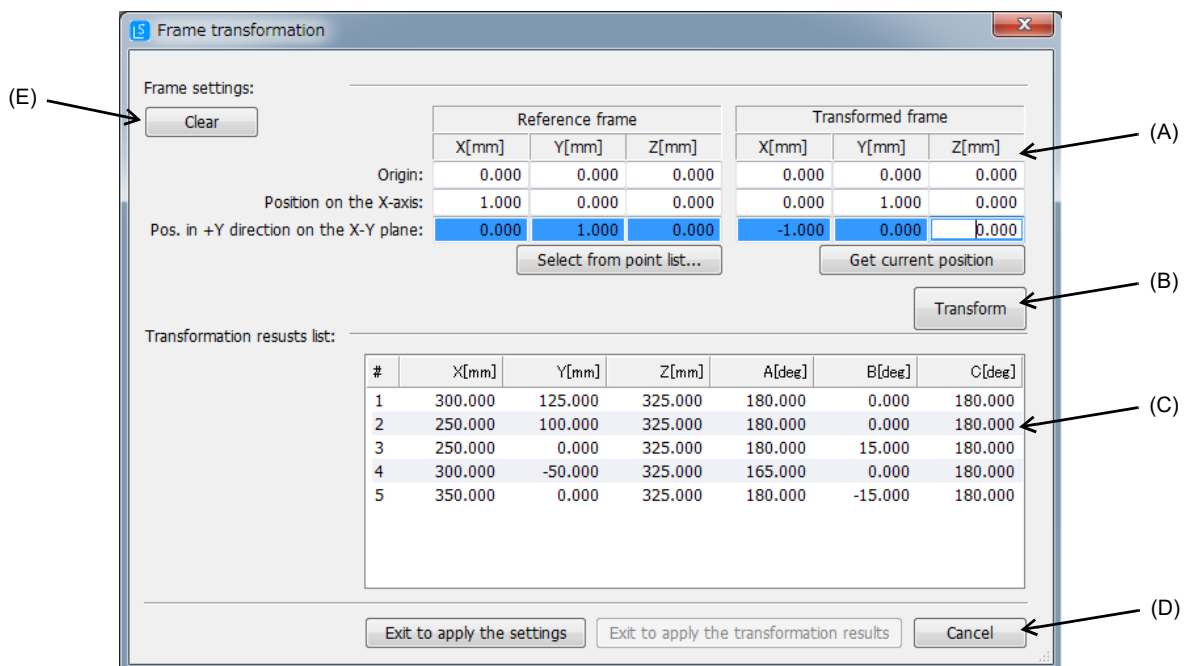

Fig.7-106:Frame transformation screen
In the (A) section of Fig. 7-106, set the X, Y and Z axis coordinate values for the three positions (origin, position on X axis, position in +Y direction on X-Y plane) that define the reference coordinate system and transformed reference coordinate system.
When the [Transform] button in Fig. 7-106 (B) is clicked after setting the coordinate system, frame transformation is applied on all path point data. The results are shown in Fig. 7-106 (C) "Transformation results list".
When frame transformation is executed, the [Exit to apply the transformation results] button in Fig. 7-106 (D) is enabled.
When the Fig. 7-106 (D) [Exit to apply the settings] button is clicked after setting the coordinate system, the position data that defines the coordinate system will be saved in the Spline File Edit screen, and the Frame transformation screen will close.
Click the Fig. 7-106 (E) [Clear] button to clear the coordinate system settings saved in the Spline File Edit screen. A confirmation dialog will appear when this button is clicked.